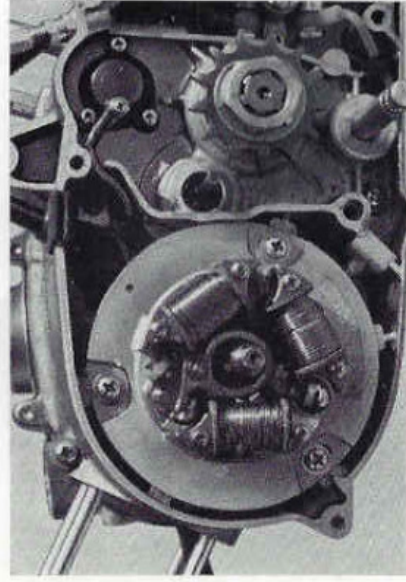

Fig. 8-2-5
4. Loosen the newtral indicator switch terminal screw with a cross head screw driver and then separate the **newtral switch wire** (blue) from the switch. (Fig. 8-2-5)